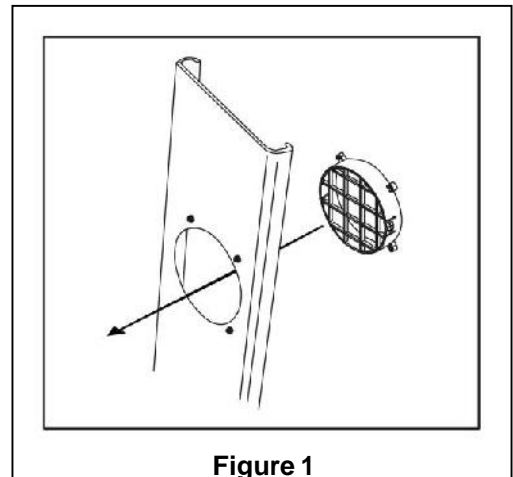

Figure 1
3. Insert the fixtures through the back grooved side of the window slide bar with holes. Line up the 4 holes and tighten the fixtures with 4 screws from the front. Fig 1.